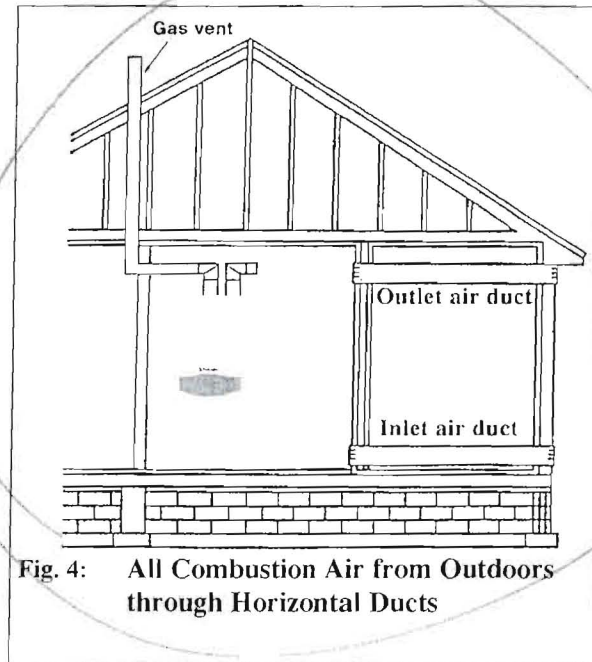

Fig. 4: All Combustion Air from Outdoors through Horizontal Ducts
- Where communicating with the outdoors is through horizontal ducts, each opening shall have a minimum free area of not less than 1 sq.in./2000 Btu/hr of total input rating of all equipment in the enclosure. See Fig. 4.